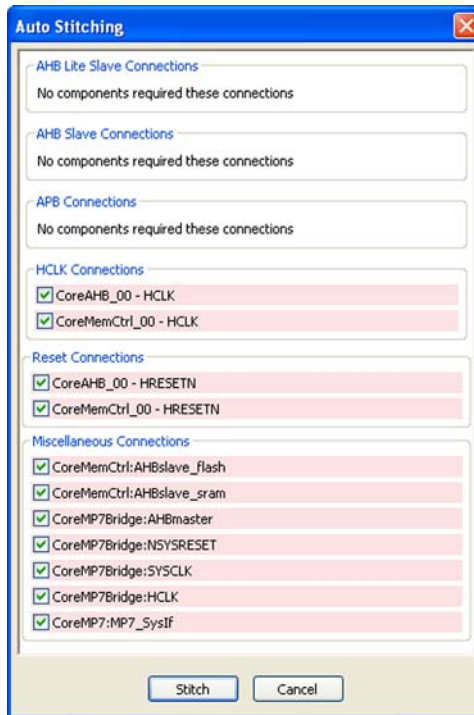

Figure 5-3. CoreConsole Auto Stitching Window
1. From the **Actions** menu, select **Auto Stitch**. This displays the Auto Stitching window, as shown in Figure 5-3.
2. Confirm that stitching has been enabled for **CoreMP7**, **CoreMP7Bridge**, **CoreAHB**, and **CoreMemCtrl**, as shown in Figure 5-3. Then click the **Stitch** button.